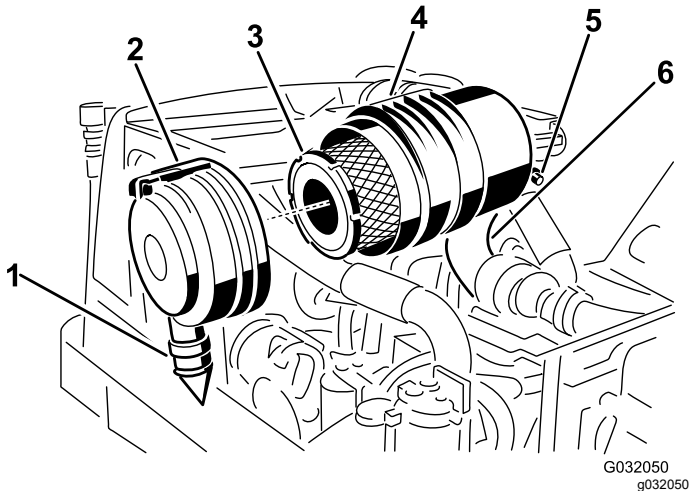

Figure 50
2. Remove the primary filter (Figure 50).
3. Replace the primary filter (Figure 50).
7. Install the cover, orienting the rubber outlet valve in a downward position between the 5 o'clock to 7 o'clock positions when viewed from the end, and secure the latch (Figure 50).